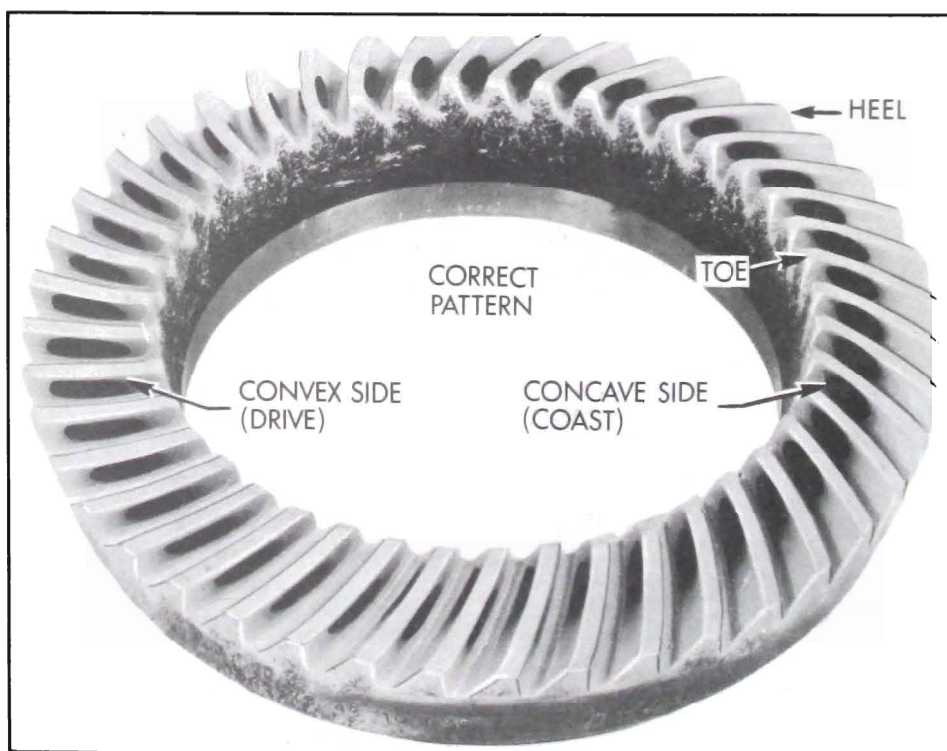
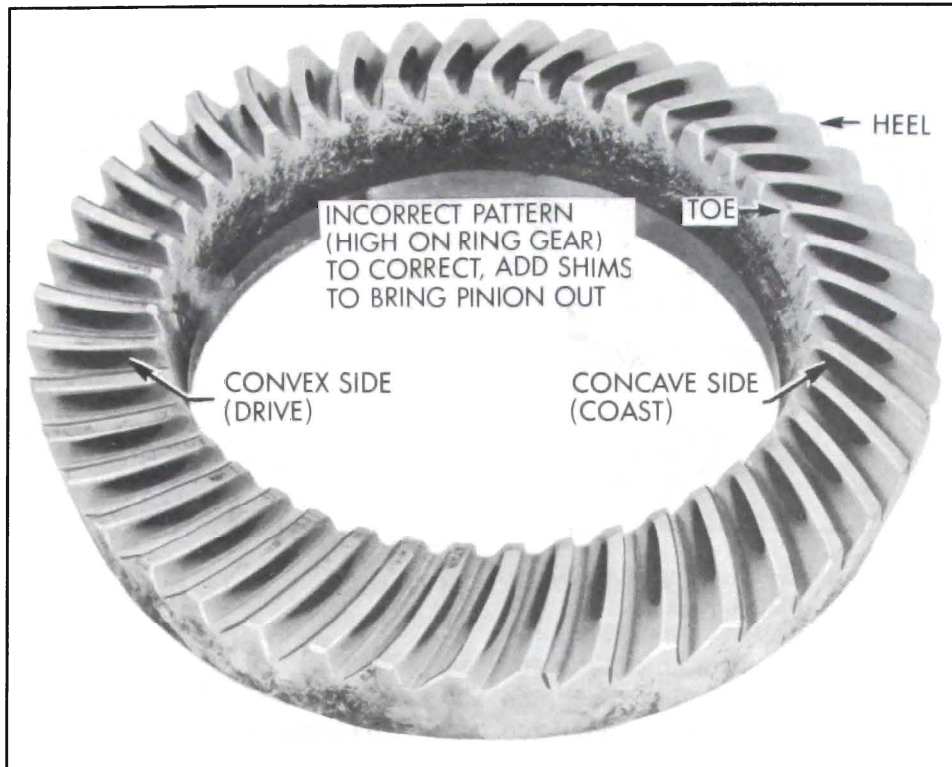

Figure 6-32—Ring Gear—Correct Tooth Contact
Figure 6-33—Ring Gear—Incorrect (high) Tooth Contact
3. Compare the marks produced on the gear teeth with those shown in Figures 6-32, 6-33, or 6-34. Figure 6-32 indicates a correct pinion to ring gear tooth contact. Pinion depth setting is correct. Figures 6-33 or 6-34 indicate incorrect tooth contact.
4. If the tooth pattern is similar to the one in Figure 6-33 this indicates that the pinion gear is contacting too high on the ring gear. To correct, add shims to bring the pinion out farther.
5. Recheck the pinion setting in this manner after any adjustments of pinion depth. The final markings should be similar to those shown in Figure 6-32. When the proper tooth contact is obtained, wipe the lead from the gears with a cloth moistened in clean gasoline or kerosene. Wipe out the housing with clean cloths.